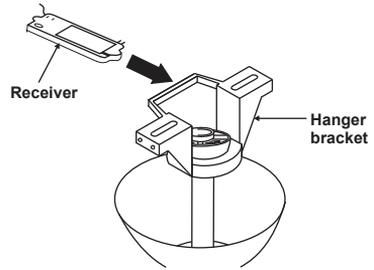

Figure 10
Step 1. (Fig. 10) Insert the receiver into the hanger bracket with the flat side of the receiver facing the ceiling.